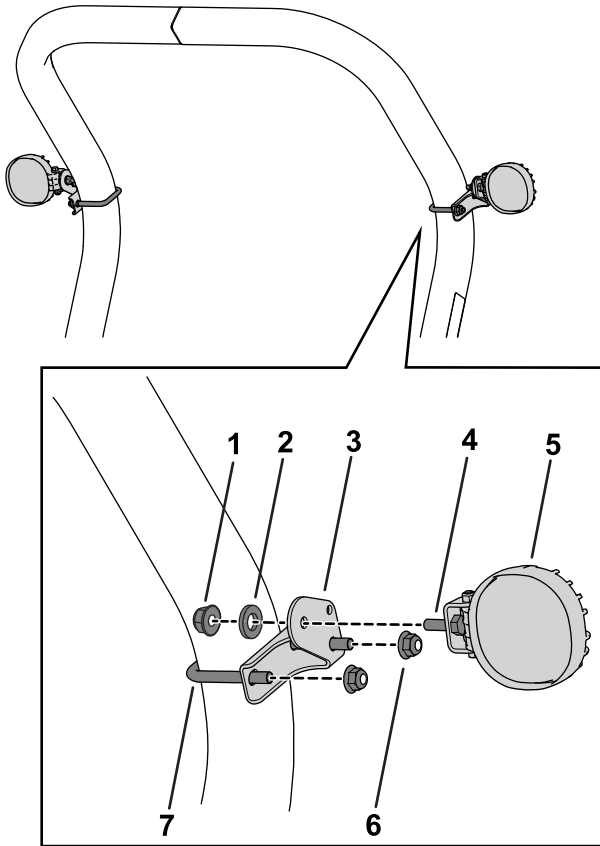

Figure 1
1. Install the bracket onto each side of the roll bar using a U-bolt and 2 nuts (3/8 inch) as shown in Figure 1.
2. Use the bolt, washer, and nut included with each headlight assembly to install the headlights as shown in Figure 1.